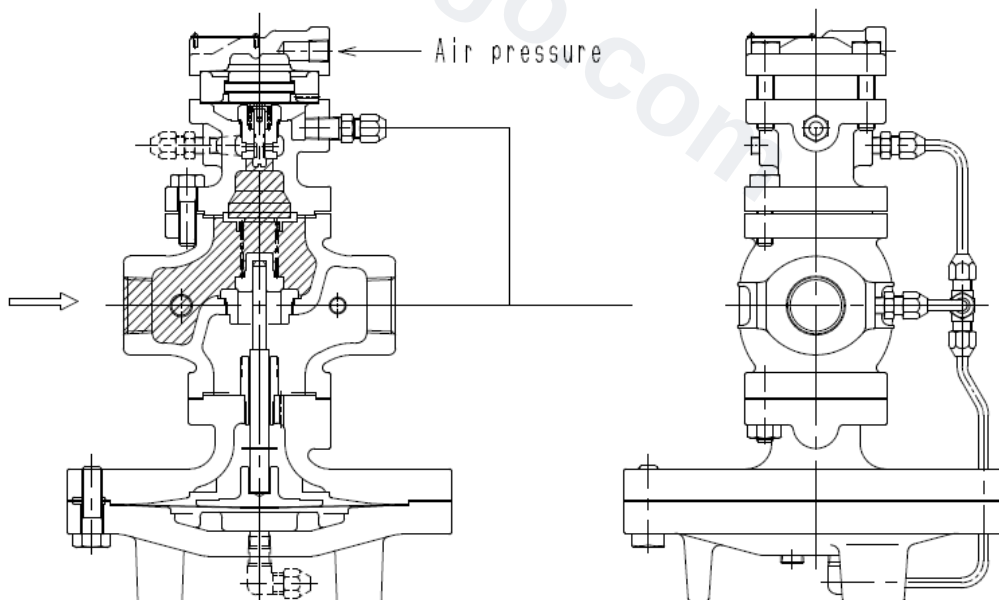

Fig.1
- (1) When the pressure reducing valve is mounted correctly, the main valve [6] and pilot valve [17] should be closed by main valve spring [13] and pilot valve spring [19] when air pressure is no-pressure. Slowly open the gate valve and allow the high-pressure fluid to flow in. Inlet pressure is applied to the upside of the main valve. High pressure fluid passes through screen [15] to also apply inlet pressure to the downside of the pilot valve. (Fig. 1)